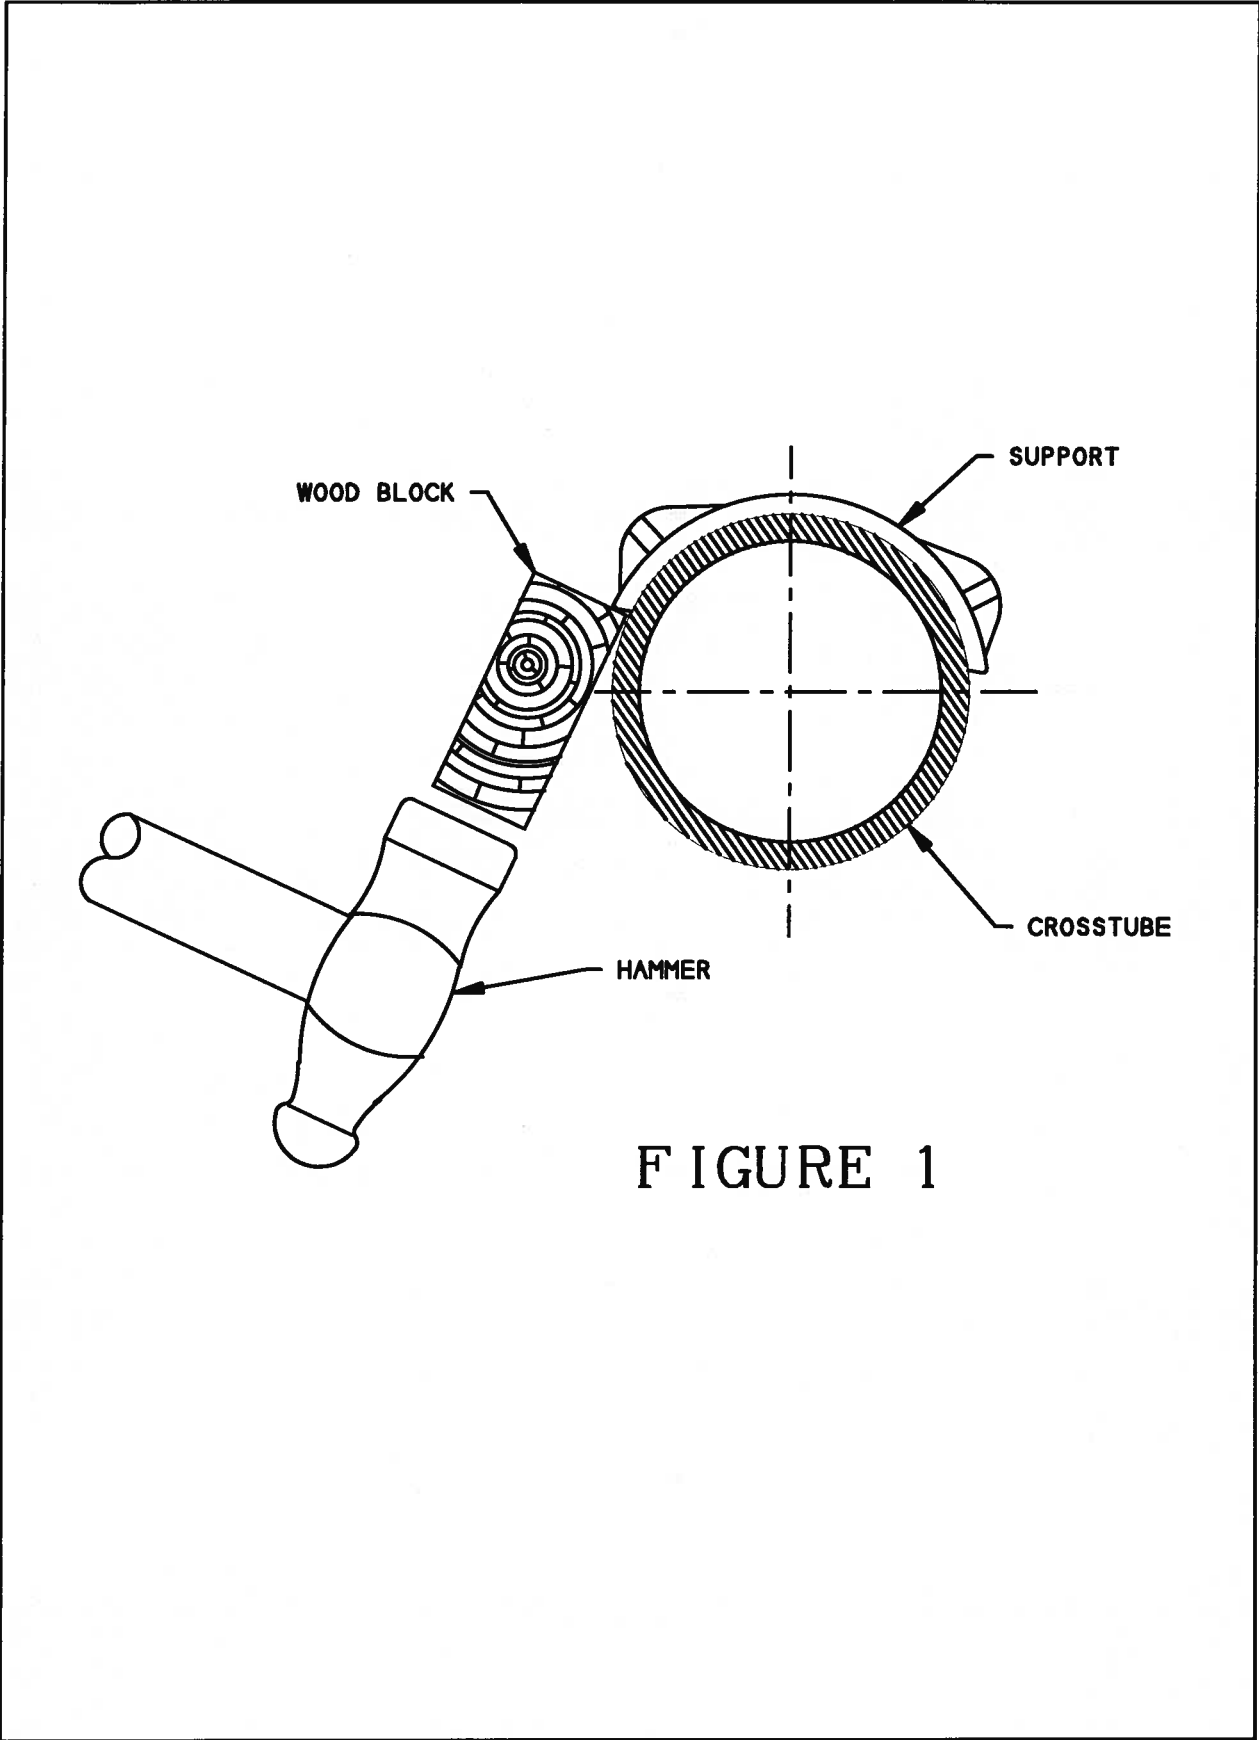

FIGURE 1
4. Remove two (2) T-Bolt Band Clamps from each Support.
7. Use a Heat Gun to heat the Support/Sealant and remove the Clamp-On-Support. If necessary use a block of wood and hammer to strike the Support abutment in an upward motion to remove Support as shown in Figure 1. **CAUTION:** Support could be hot!